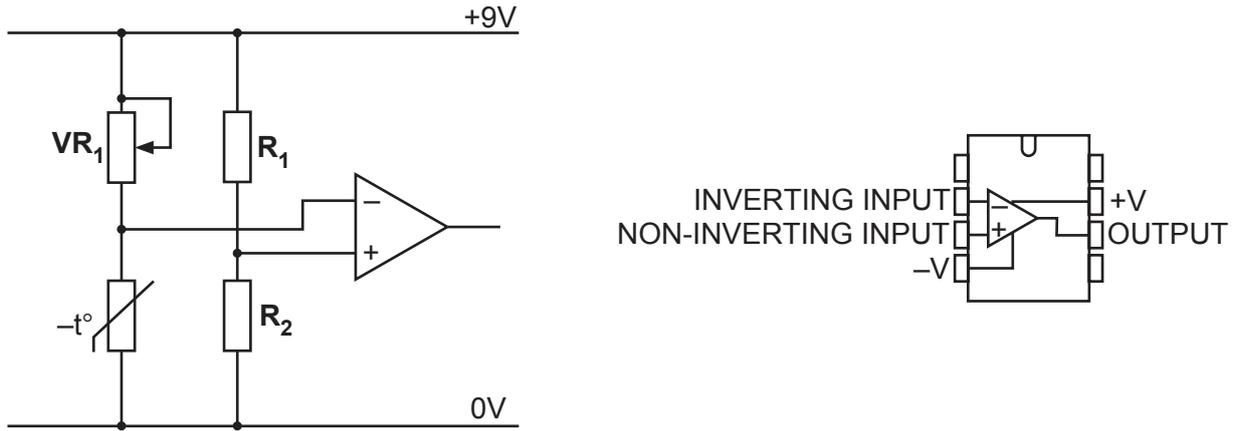

Fig. 12.3
(ii) Fig. 12.3 shows the temperature sensing circuit, which uses an operational amplifier (OP AMP) to compare two voltages.
- (iii) R_1 and R_2 in Fig. 12.3 form a potential divider which is connected to pin 3 of the OP AMP. Calculate the voltage at pin 3 if R_1 is $10\text{ k}\Omega$ and R_2 is $15\text{ k}\Omega$.